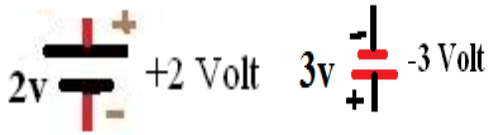

Fig.3: Battery polarity and voltage measurement
3. Now, we will see the polarity of the battery, it will be checked from bottom to up, if the negative sign is first then it is considered as positive otherwise negative, shown in the figure 3.